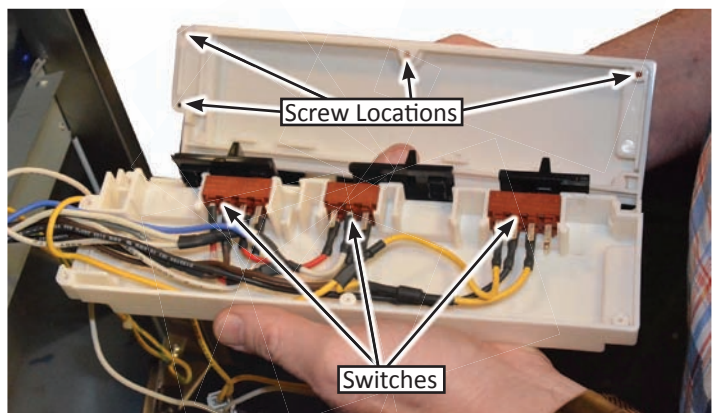

Figure 4
6. Remove (4) T10 Torx screws that attach the cover to the switch box assembly, see figure 4.